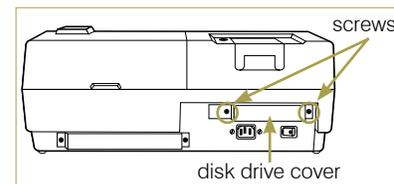

Figure B-11: Remove the screws to release the disk drive cover
2. Remove the metal cover over the software disk at the back of the analyzer by undoing the two screws holding it in place (Figure B-11).